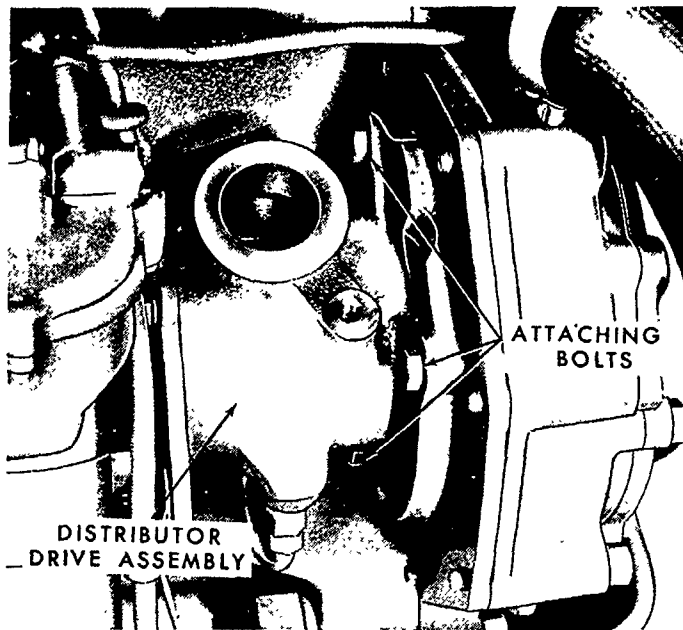

Figure 76
The distributor drive assembly, Figure 76, is located on the front right-hand side of the engine and is attached to the engine and front adapter plate. The distributor drive assembly consists of a housing, housing cover, gasket, and distributor drive shaft assembly, and is driven by the governor drive gear which is keyed to the distributor drive shaft assembly. The gear on the
7. Remove the three bolts that attach the distributor drive housing to the front engine plate and remove the housing, Figure 76. It may be necessary to tap the shaft from the governor drive gear with a soft hammer.
1. Using a new gasket, position the drive assembly on the front engine plate. Align the key on the shaft with the keyway in the drive gear and start the shaft into the gear. Install the three drive housing bolts and lock washers, Figure 76.